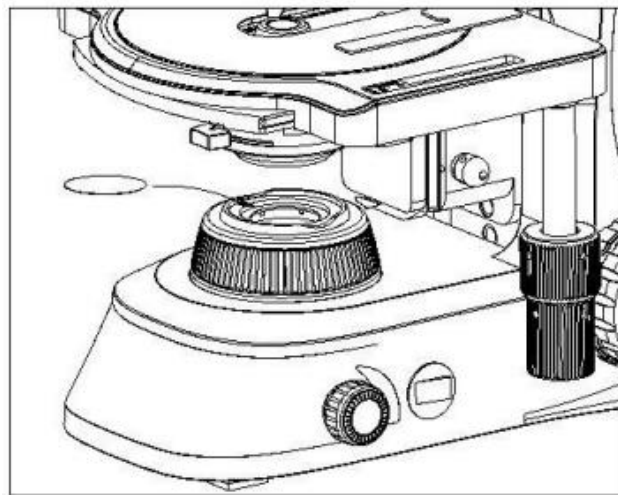

Figure 36
- The filter can improve the background and enhance contrast (see Fig. 36).